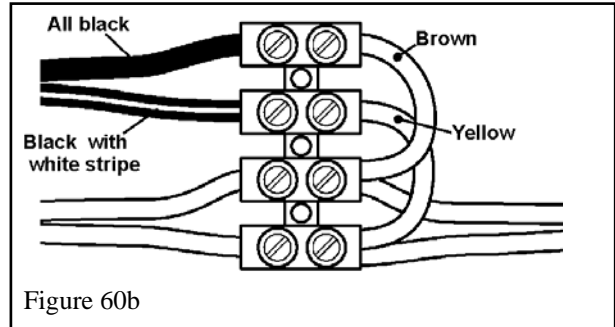

Figure 60b
- Securely connect the wires to the terminal block. **Connect the black wire to the terminal opposite the brown wire. Connect the wire with the white stripe to the terminal opposite the yellow wire.** See figure 60b.